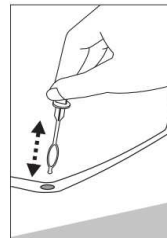

fig. 10
- Use the special cleaning element (**fig. 10**) for periodical cleaning of the condensate drain hole.